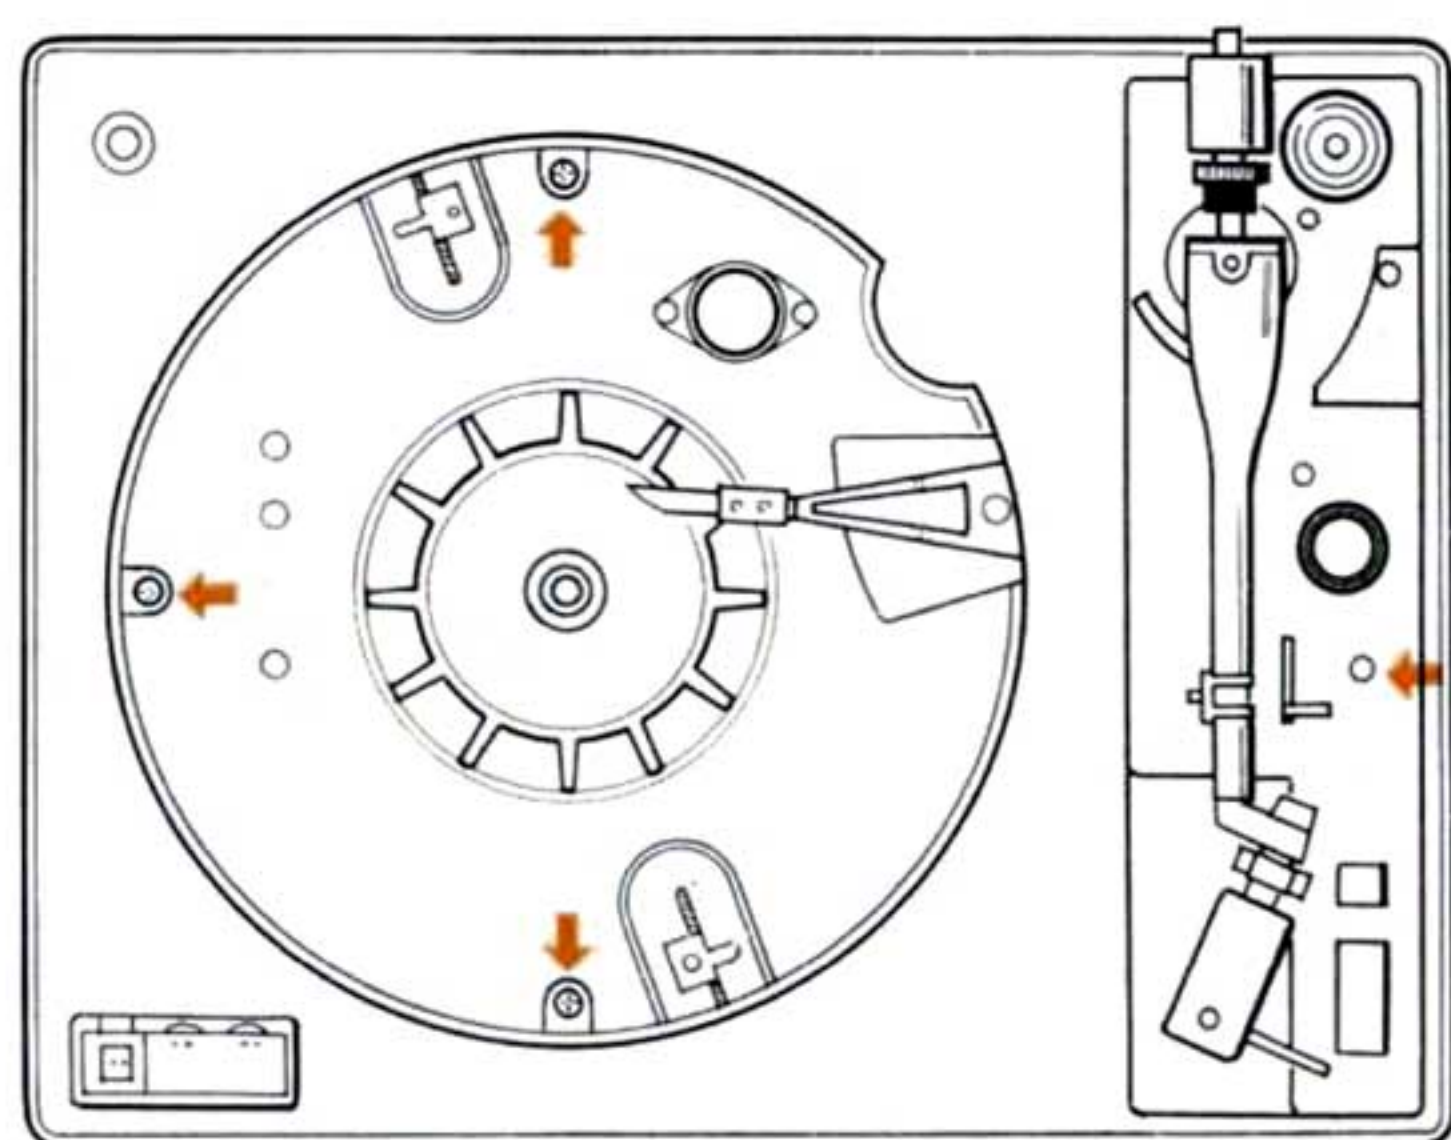

Figure 4. The Location of 4 Bolts
1. Figure 4 shows the locations of the 4 bolts which are used to hold down the panel. They are no longer required when installing the player.